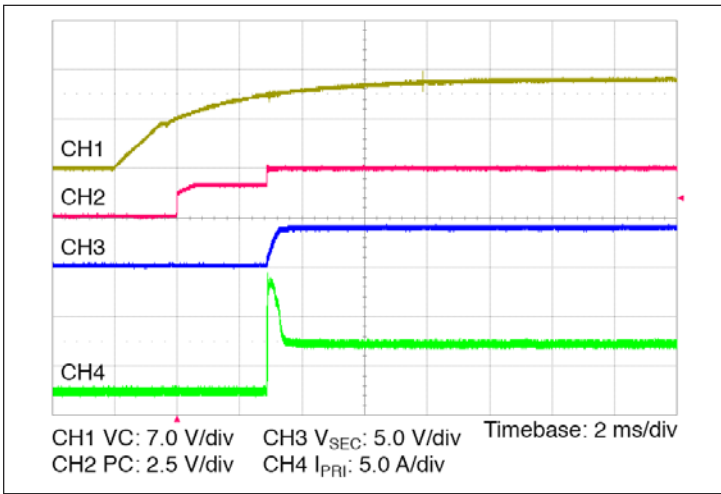

Figure 11 — Start up from application of VC;
- Stand-alone operation (VC applied after V_{PR1}): In this case the VTM secondary will begin to rise upon the application of the VC voltage (See Figure 11). The Adaptive Soft Start Circuit (See Section 11) may vary the secondary voltage rate of rise in order to limit the inrush current to its maximum level. When starting into high capacitance, or a short, the secondary current will be limited for a maximum of 1200 µsec. After this period, the Adaptive Soft Start Circuit will time out and the VTM module may shut down. No restart will be attempted until VC is re-applied or PC is toggled. The maximum secondary capacitance is limited to 1000 µF in this mode of operation to ensure a successful start.